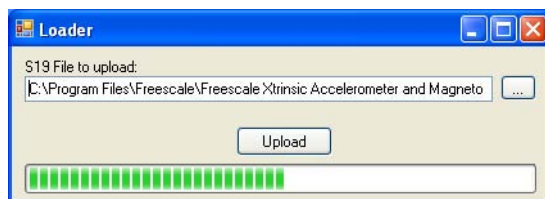

Figure 3. Upload progress screen
- b) Click OK, and the firmware upload progress window appears as shown in Figure 3.